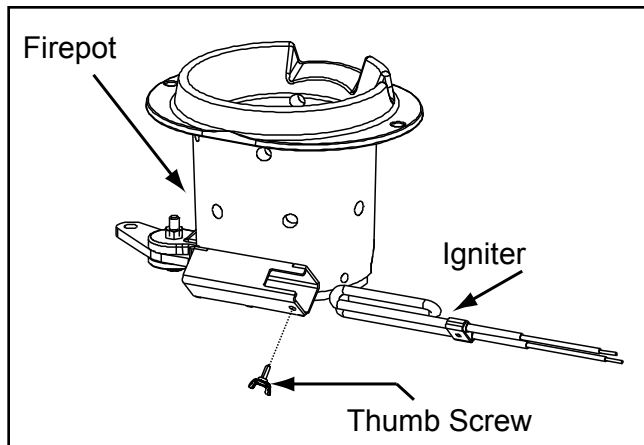

Figure 35.1
4. Slide the retainer rod into the top hole first, and then line up the bottom crimped end with the hole in the door. The crimped end must be parallel with the glass in order to insert it into place. **Figure 35.1.**